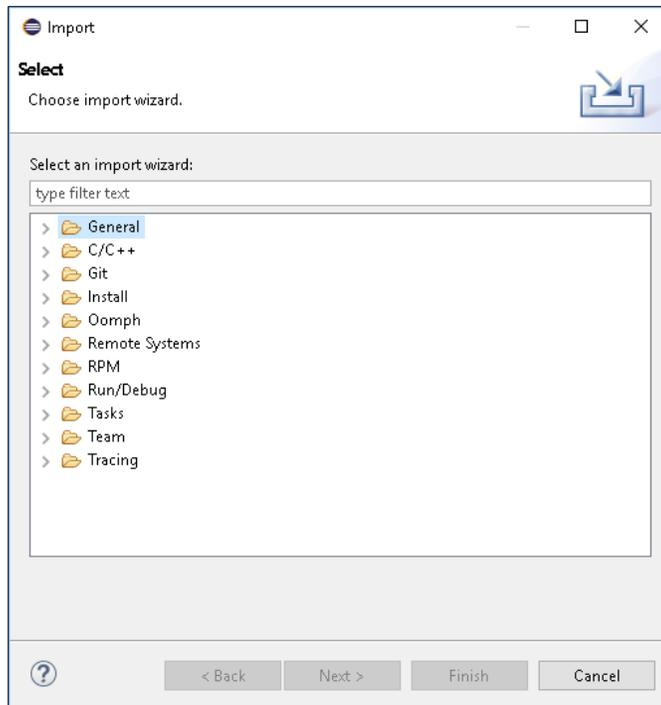

Figure 3. Import dialog box.
1. Select **File > Import** from the menu bar. The **Import** dialog box appears, as shown in **Figure 3**.